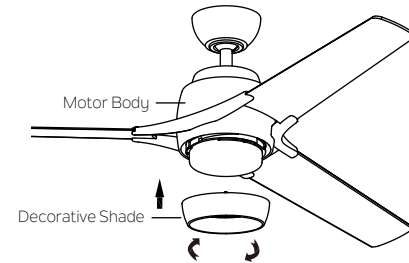

Fig. 18
Step 4. Secure the decorative shade to motor body by twisting in a clockwise direction. Do not over-tighten. (Fig. 18)